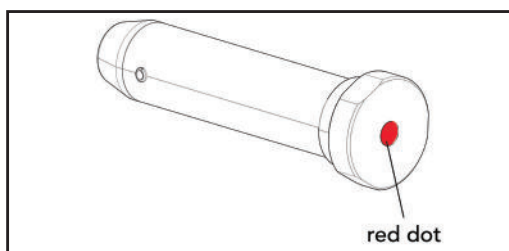

Fig. 51 – HK Proprietary Buffer
**WARNING:** Ensure that only the proprietary HK buffer (marked with the HK logo and red dot) and recoil spring (action spring), also marked with red paint, are installed in the MR556A1. Use of non HK buffers and recoil springs could result in cycling problems and affect the reliability of the MR556A1 (Fig. 51).